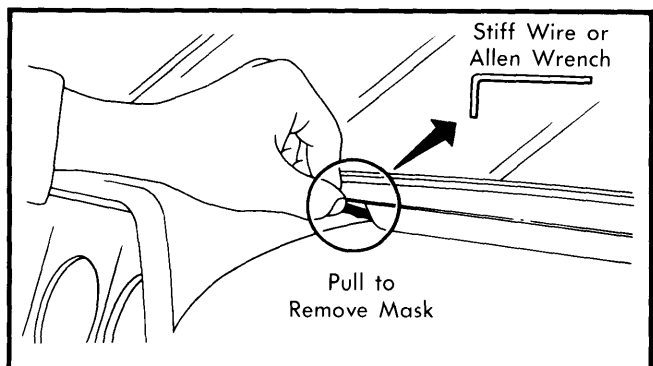

Fig. 3 Inserting Wire to Remove Instrument Panel Mask on 310
3) Insert a thin wire between cluster lid and edge below windshield. Pull off cluster mask with wire. See Fig. 3. Remove bolts attaching center of panel to firewall. Remove steering column bracket bolts. Pull panel up and back to remove from vehicle.